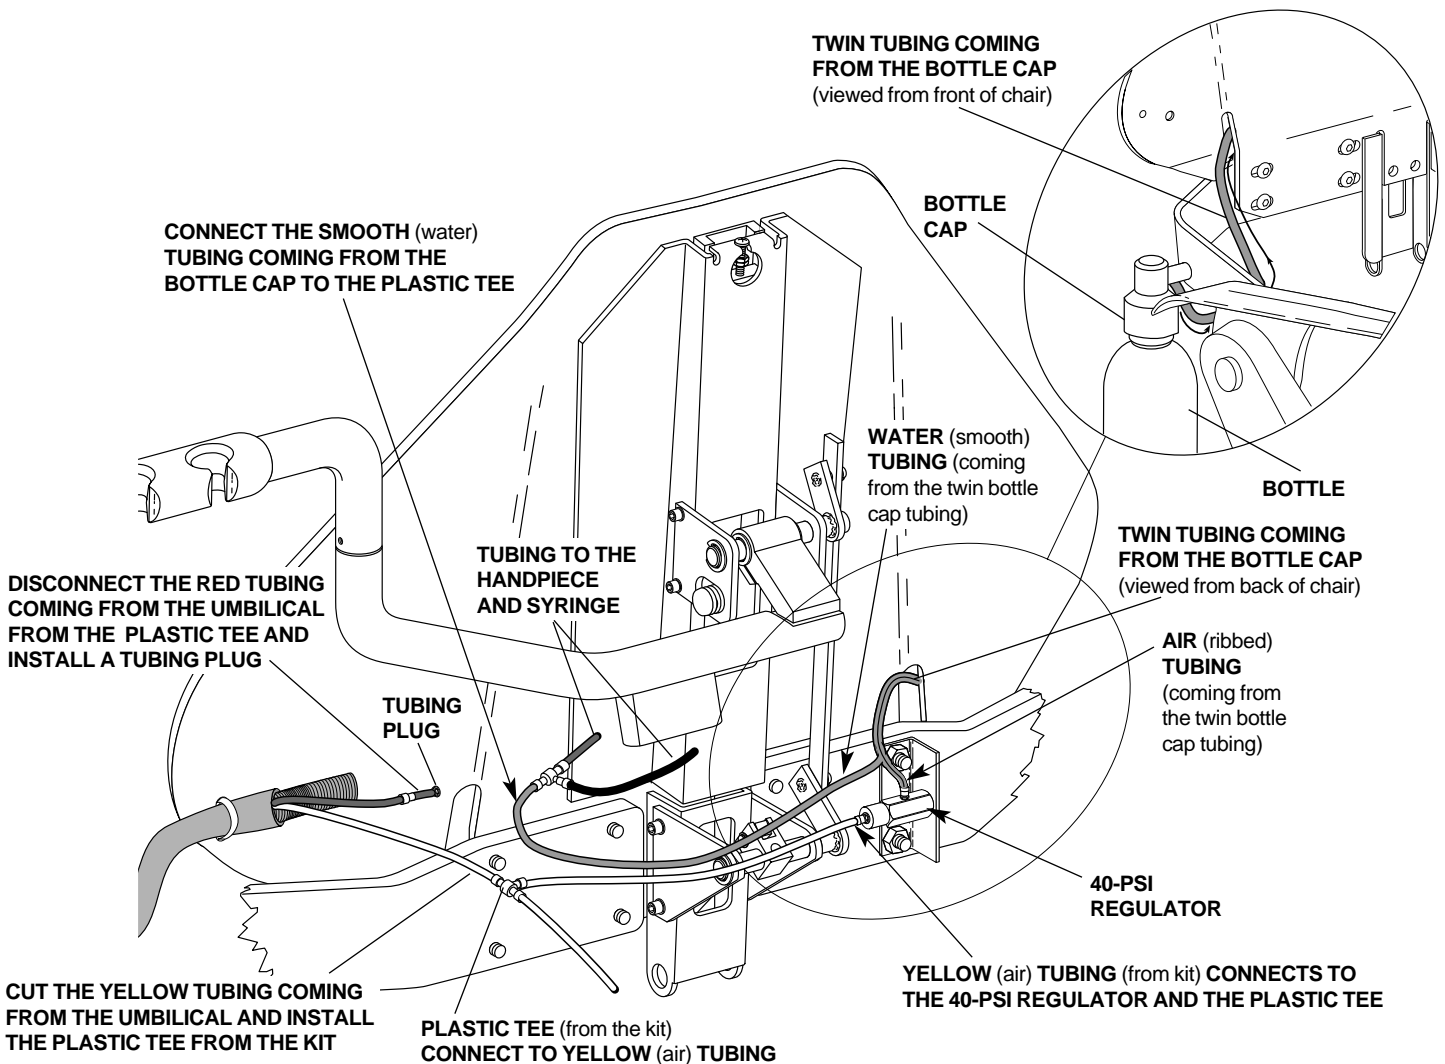

FIGURE 9
11. Route the 1/8" twin-hole tubing coming from the bottle cap under the armrest bracket and through the backrest (see Figure 9).
12. Separate the air (ribbed) tubing and the water (smooth) tubing coming from the cap. Slide a uni-clamp on the air (ribbed) tubing. Connect the air (ribbed) tubing to the barb on the side of the 40-psi regulator (see Figure 9). Secure the connection with the uni-clamp.
13. Locate the plastic tee connecting (see Figure 9) the oral water (red) tubing coming from the chair umbilical, the syringe water (black) tubing, and the handpiece control block water (red) tubing. Slide the uni-clamp, securing the oral water (red) tubing coming from the chair umbilical, away from the plastic tee and remove the oral water tubing from the plastic tee (see Figure 9). Install a 1/8" tubing plug, from the kit, onto the red tubing coming from the chair umbilical. Secure the connection with the uni-clamp.
14. Slide a uni-clamp on the water (smooth) tubing. Connect the tubing to the plastic tee (see Figure 9). Secure the connection with the uni-clamp.
15. Remove the air (yellow) tubing from the kit. Slide a uni-clamp onto the tubing and connect the tubing to the remaining barb on the regulator (see Figure 9). Secure the connection with the uni-clamp.
16. Locate the air (yellow) tubing coming from the chair umbilical. Cut the air (yellow) tubing (see Figure 9). Slide a uni-clamp onto each end of the air tubing and reconnect the air tubing using a plastic tee from the kit. Secure the connections with the uni-clamps.
17. Slide a uni-clamp onto the yellow tubing installed to the regulator in Step 15. Connect the air tubing to the remaining barb on the plastic tee installed in Step 16 (see Figure 9).